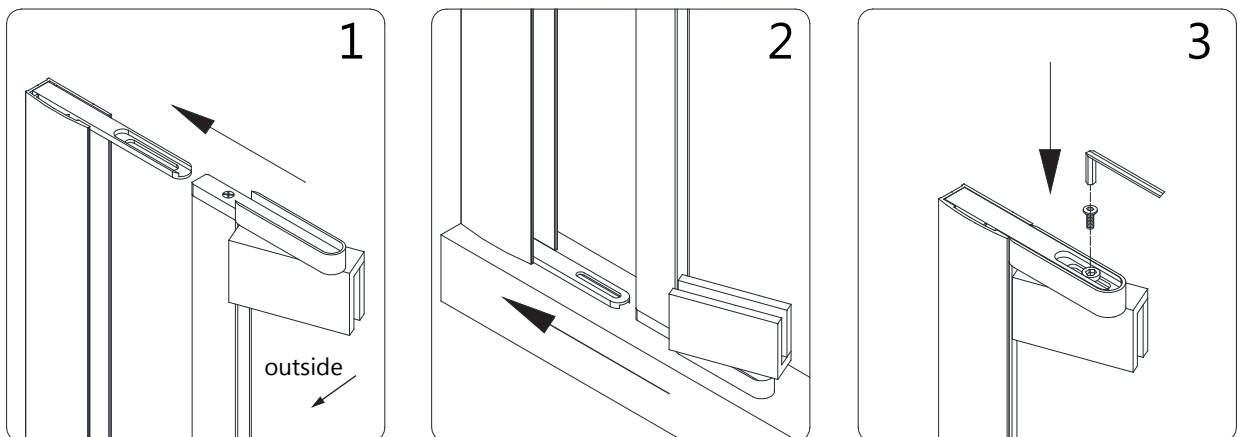

Fig 5
5. Slide the **Glass Profile for Pivot Side (#02)** with the attached **Pivot Assemblies (#07)** into the **Wall Profile for Pivot Side (#01)** and secure the top **Pivot Retainer (#08)** to the top **Pivot Assembly (#07)** with the **Round Head Socket Bolt M6x12 (#17)**. (Fig 5)